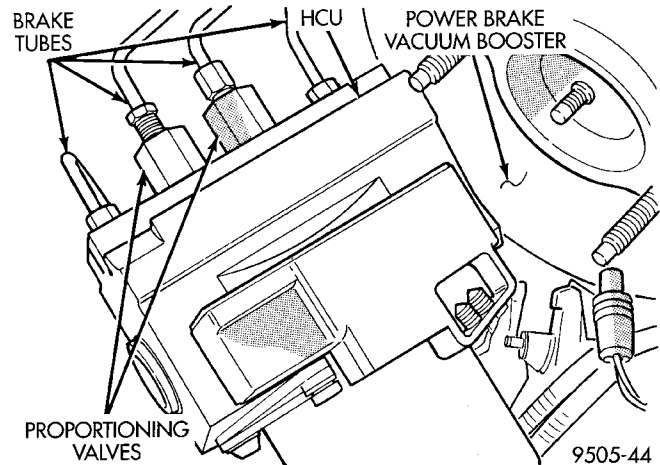
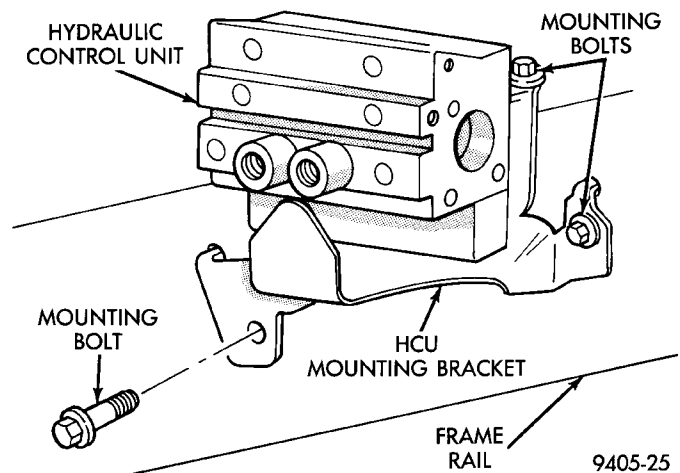

Fig. 17 Chassis Brake Tube Connections To HCU
Fig. 18 Hydraulic Control Unit Mounting Bracket
(9) Remove the chassis brake tubes from the proportioning valves and outlet ports of the (HCU) (Fig. 17).
(10) Raise vehicle.
(11) Loosen and remove the 2 bolts attaching the HCU mounting bracket to the side of the front frame rail (Fig. 18).
(12) Lower vehicle.
(13) Loosen and remove the bolts attaching the HCU mounting bracket to the top of the frame rail (Fig. 18).
(14) Remove HCU and its mounting bracket as an assembly from the vehicle.
(1) Install the HCU and mounting bracket as an assembly, on left front frame rail of the vehicle, aligning tabs on mounting bracket with holes in frame rail. (Fig. 18).
(2) Install and loosely tighten the bolt attaching the HCU mounting bracket to the top of the frame rail.
(3) Raise vehicle.
(4) Install the 2 bolts attaching the HCU mounting bracket to the side of the front frame rail (Fig. 18). Then torque both mounting bolts to 28 N·m (200 in. lbs.).
(5) Lower vehicle.
(6) Torque bolt attaching HCU mounting bracket to top of frame rail to 20 N·m (180 in. lbs.).
(7) Install the 4 chassis brake tubes (Fig. 17) onto the proportioning valves and outlet ports of the HCU. Torque the 4 chassis brake tube nuts to 17 N·m (145 in. lbs.).